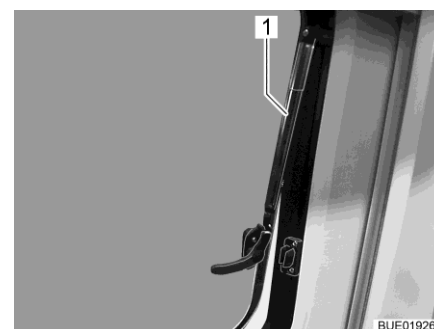

Fig. 20 Hinged window with automatic hinges, open
- Open hinged window half up to the required position. Allow the hinged window to engage automatically with the automatic hinge (Fig. 20,1).